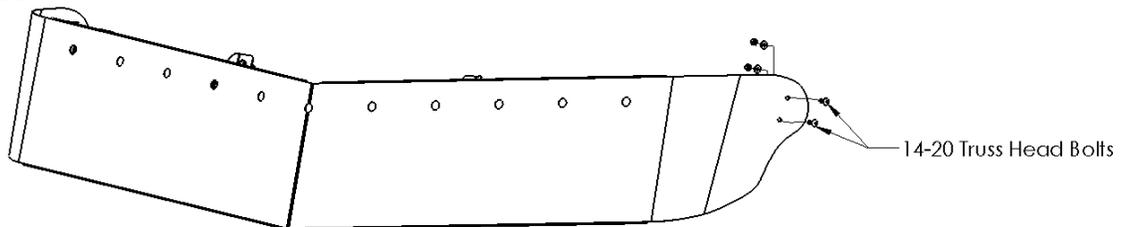

FIGURE 12 – Ear Bracket bolts
- e. Peel plastic around outer Ear Bracket bolt holes, and fasten visor skin to Ear Brackets with the supplied 1/4-20 truss head bolts (See FIGURE 12). Use a flat washer and locknut on each.